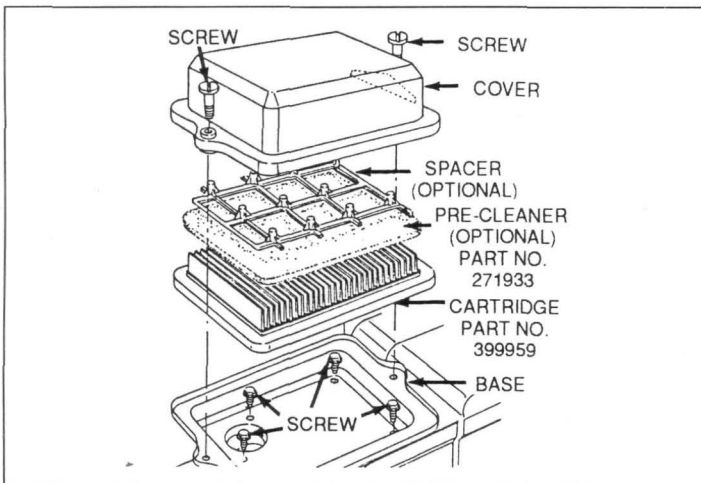

FIGURE 5-10: The air cleaner assembly.
2. Remove the two screws from the ends of the air cleaner cover. See Figure 5-10.